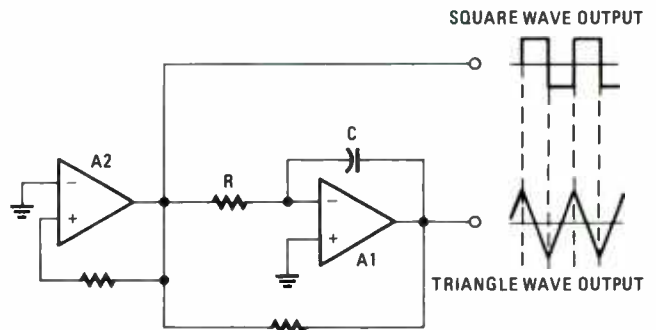

Fig. 23—A function generator produces square- and triangle - output waveforms.
39. (relaxation oscillator) One of the most popular op-amp oscillators is called a *function generator*. It produces both square and triangular wave outputs. Figure 23 shows a typical circuit. Op-amp A1 is an integrator while A2 is connected as a comparator with its reference set to ground, or zero volts. A1 integrates the DC output of A2 until its output equals zero, at which point the comparator output switches. The integrator then switches directions and generates a ramp in the opposite direction again until its output equals zero. The result is square and triangular waves such as those previously shown in Fig. 13. By switch-selecting various values for C, and by making the squarewave output level of the comparator variable, the output frequency can be varied over an extremely wide range.